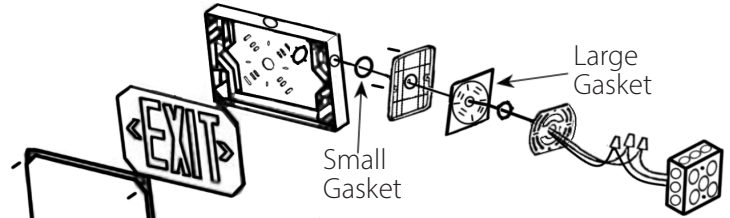
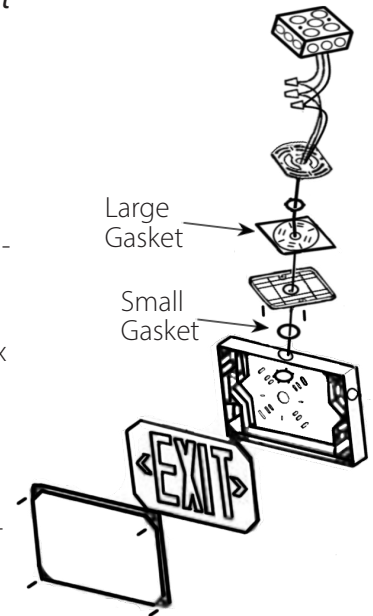

Figure 3 - Wall Mount
Figure 4 - Top Mount
- Feed the power supply through knockout, pipe, and metal mounting plate, as seen in "Figure 4 - Top Mount" or "Figure 3 - Wall Mount." Direct input wires along walls of the fixture to protect the wires and prevent shadowing.
NOTE: Figure 3 and Figure 4 shown as single face install, for double face: install additional EXIT faceplate.